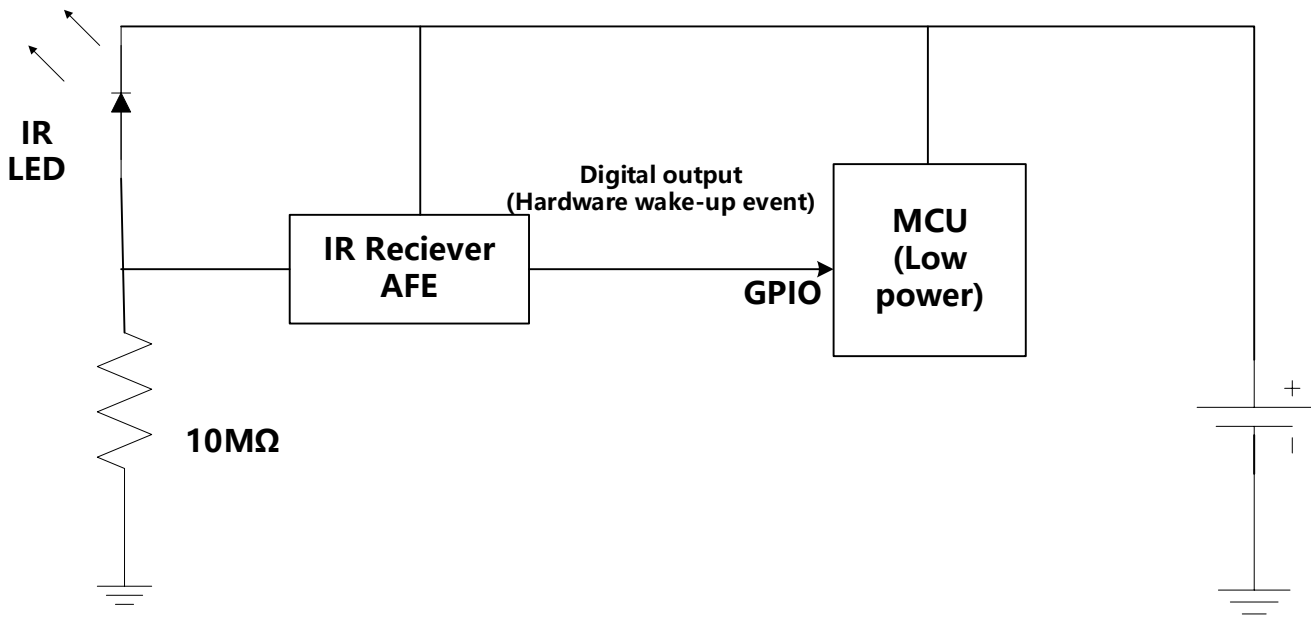

Figure 20: Coin Cell Battery Powered IR Receiver
Infrared (IR) communication is inherently immune to RF interference as long as there is a line-of-sight path between the transmitter and the receiver. It is also one of the lowest cost communication schemes. This makes it a good choice for implementing wireless communications in applications such as utility metering. A common system topology to extend battery life is to use a power efficient IR receiver analog front end (AFE) that is always on and wakes up the host only when there is valid IR signal detected as shown in Figure 20.
Figure 20 shows the IR receiver system block diagram. The host MCU is normally in the shutdown mode (during which the quiescent current is less than $1 \mu\text{A}$) except when data is being transferred.